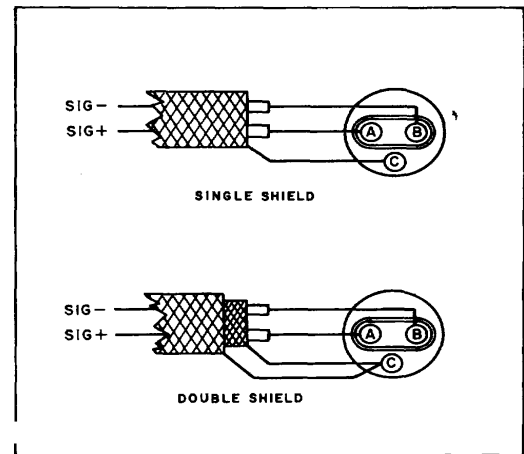

Figure 2-5. Input Connector Wiring, Non-Guarded
- d. Solder the cable center conductors to connector pins A and B. See Figure 2-5.